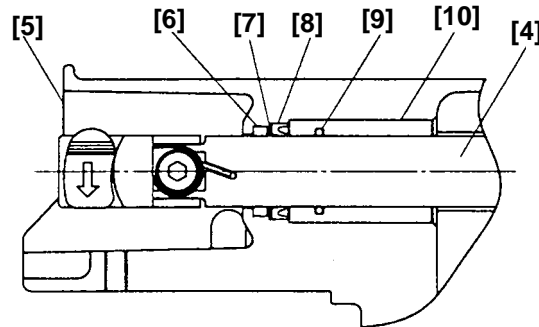

Fig. 15
(3) Mounting Metal (B) [10] to Gear Cover (B) [5] (Fig. 15)
(4) Mounting the Ball Bearing 6002DDCMPS2L [23] to Gear Cover (B) [5] (Fig. 15)